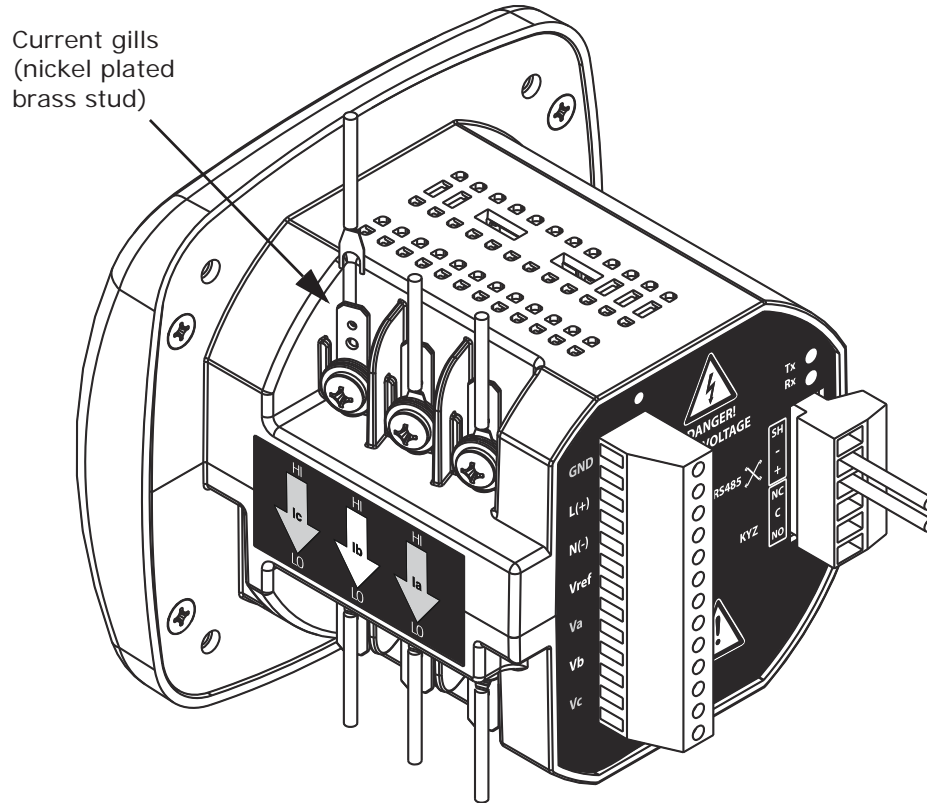

Figure 4.1: CT Leads terminated to Meter, #8 Screw for Lug Connection
The Shark® 100/50 meter is designed to have current inputs wired in one of three ways. Figure 4.1 shows the most typical connection where CT Leads are terminated to the meter at the current gills. This connection uses nickel-plated brass studs (current gills) with screws at each end. This connection allows the CT wires to be terminated using either an "O" or a "U" lug. Tighten the screws with a #2 Phillips screwdriver. The maximum installation torque is 1 Newton-Meter.
**NOTE:** Figures 4.1 - 4.4 show the back of a meter with the 485P option. If your meter is a Shark® 100B or is a Shark® 100 with the INP10 option, you will see an RJ45 port and KYZ Pulse Output on the back of the meter.